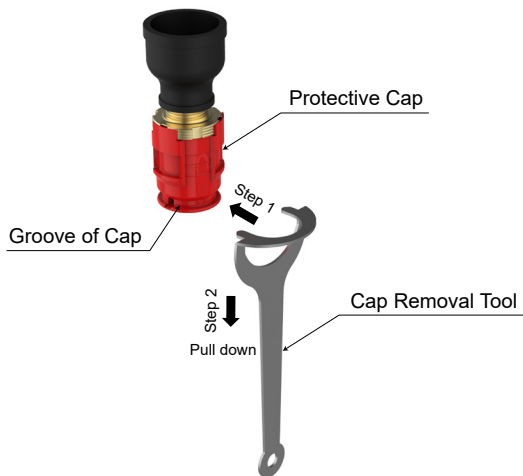
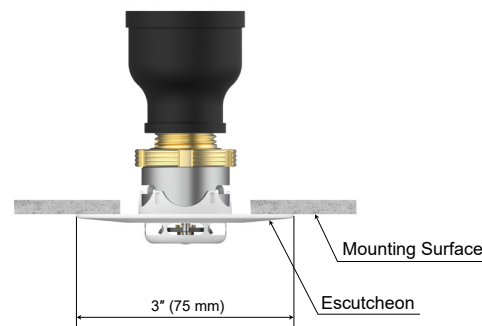
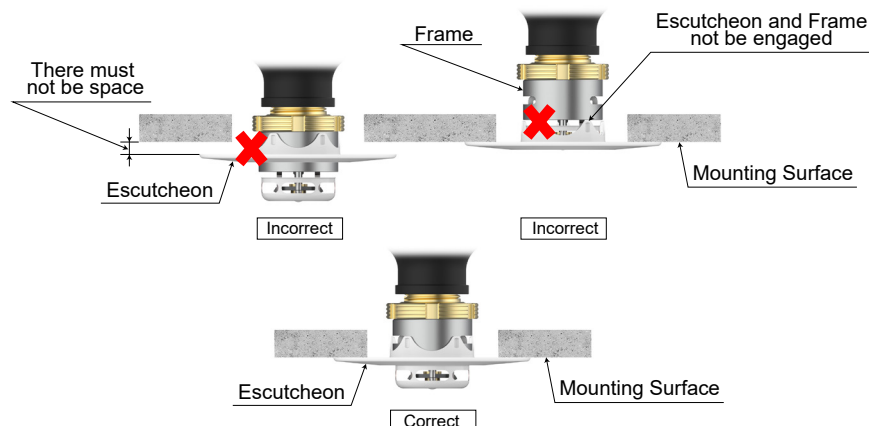

Figure 5: Protective Cap Removal
Figure 6: Installation
Figure 7: Installation (Correct and Incorrect)
Step 6: After the ceiling has been completed with the 2-inch (50mm) diameter clearance hole, use the Cap Removal Tool (Ref. Figure 5) to remove the Protective Cap and then push on the Escutcheon until its flange just comes in contact with the ceiling (Ref. Figure 6 & Figure 7).